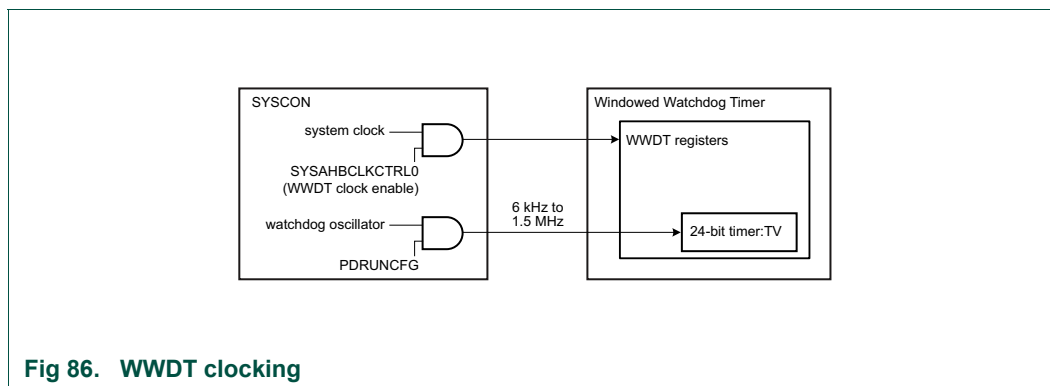

Fig 86. WWDT clocking
- The watchdog clock (WDCLK) is generated from always on FRO_1MHz clock, see Figure 86 that can be divided by WDT clock divider register value in SYSCON module. See Table 103. The accuracy of this clock is limited to +/- 15% over temperature, voltage, and silicon processing variations. To determine the actual watchdog frequency, use the frequency measure block. See Chapter 11 “LPC55S0x/LPC550x Analog control”.